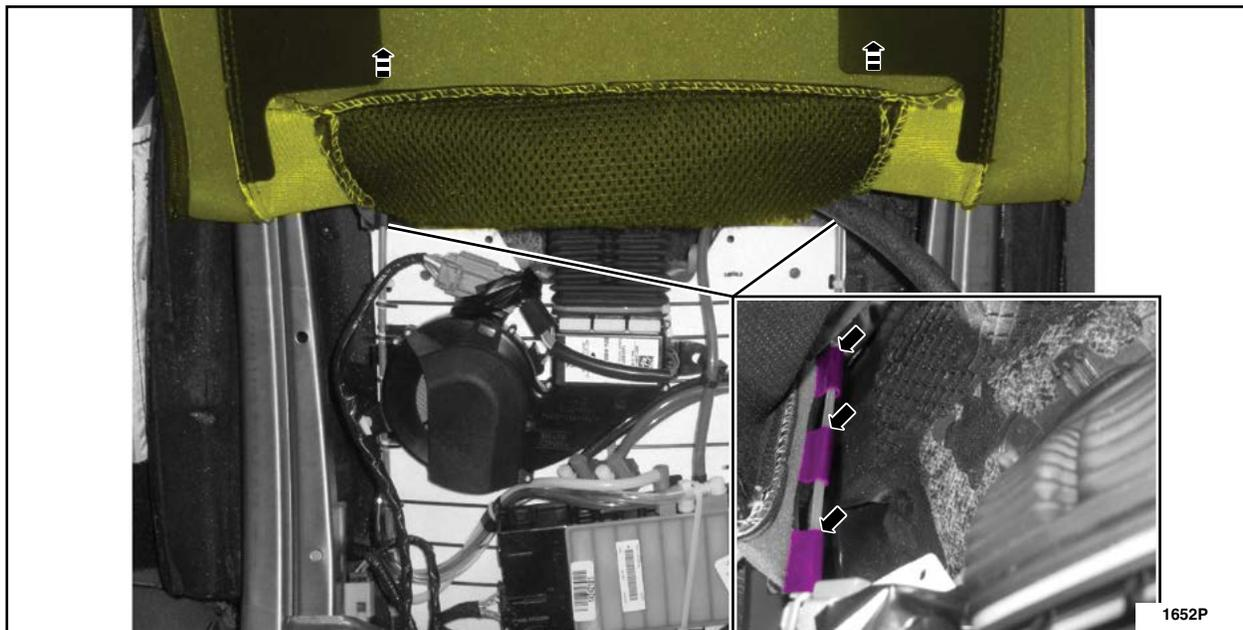

FIGURE 14
10. If equipped, detach the backrest cover J-clips from the lumbar support wire and position the backrest cover up. See Figure 14.